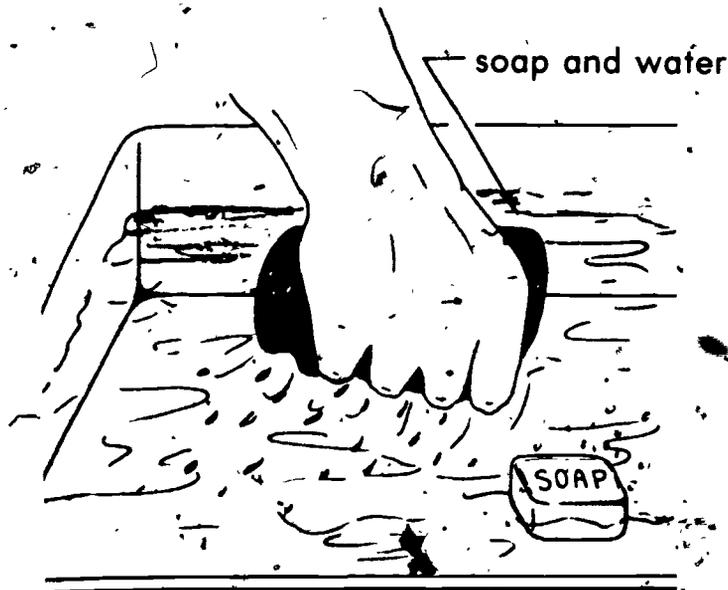

FIGURE 2.
- b. Wash it thoroughly (Figure 2)